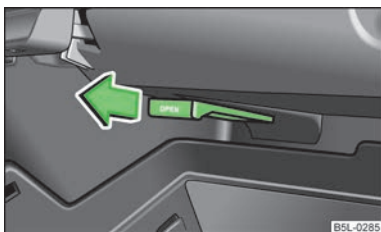

Fig. 72
- Open the air supply by pulling the lever in the direction of the arrow » Fig. 72.